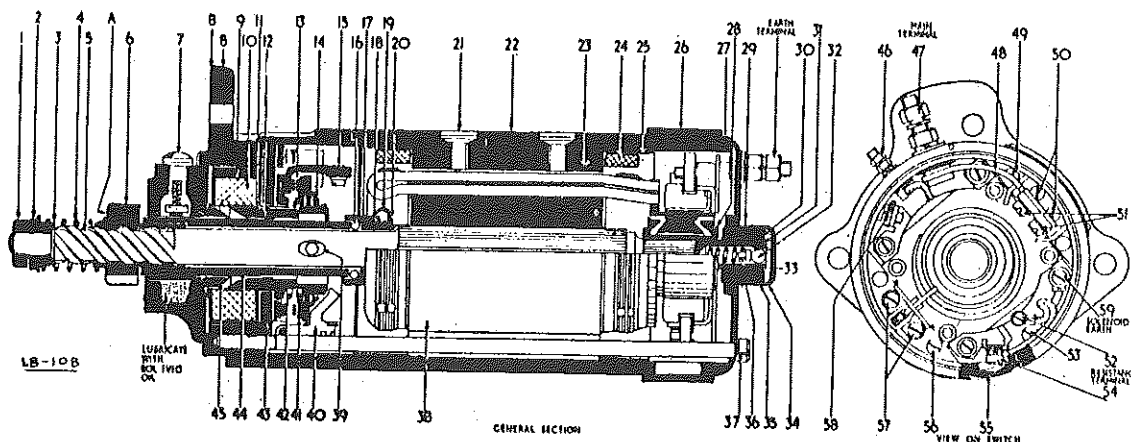

Fig. 49. SECTION THROUGH STARTER
The starter motor is a C.A.V. 'co-axial' type, in which the pinion moves axially along the armature to engage the flywheel. As will be seen from Fig. 49 the pinion is carried by a long sleeve on the armature shaft, pinion and shaft being provided with a helical thread; a light return spring is fitted.
3. Energise the solenoid, by means of a battery connected between the solenoid terminal (46) Fig. 49 and the earth terminal on the commutator end-shield. The pinion must move forward  $\frac{1}{4}$  in. minimum.